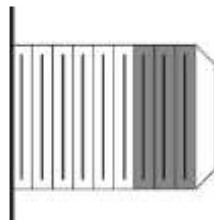
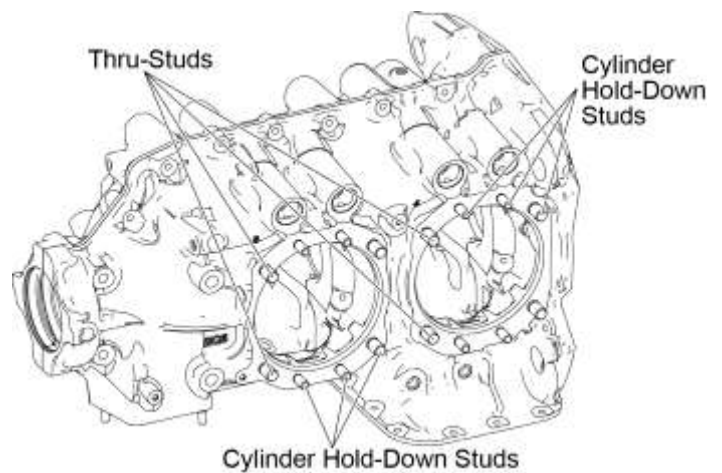

Figure 25
Figure 26
- D. Apply one or a combination of any of the following lubricants to the outer three threads (Figure 25) on all of the crankcase thru-studs and cylinder hold-down studs (Figure 26):